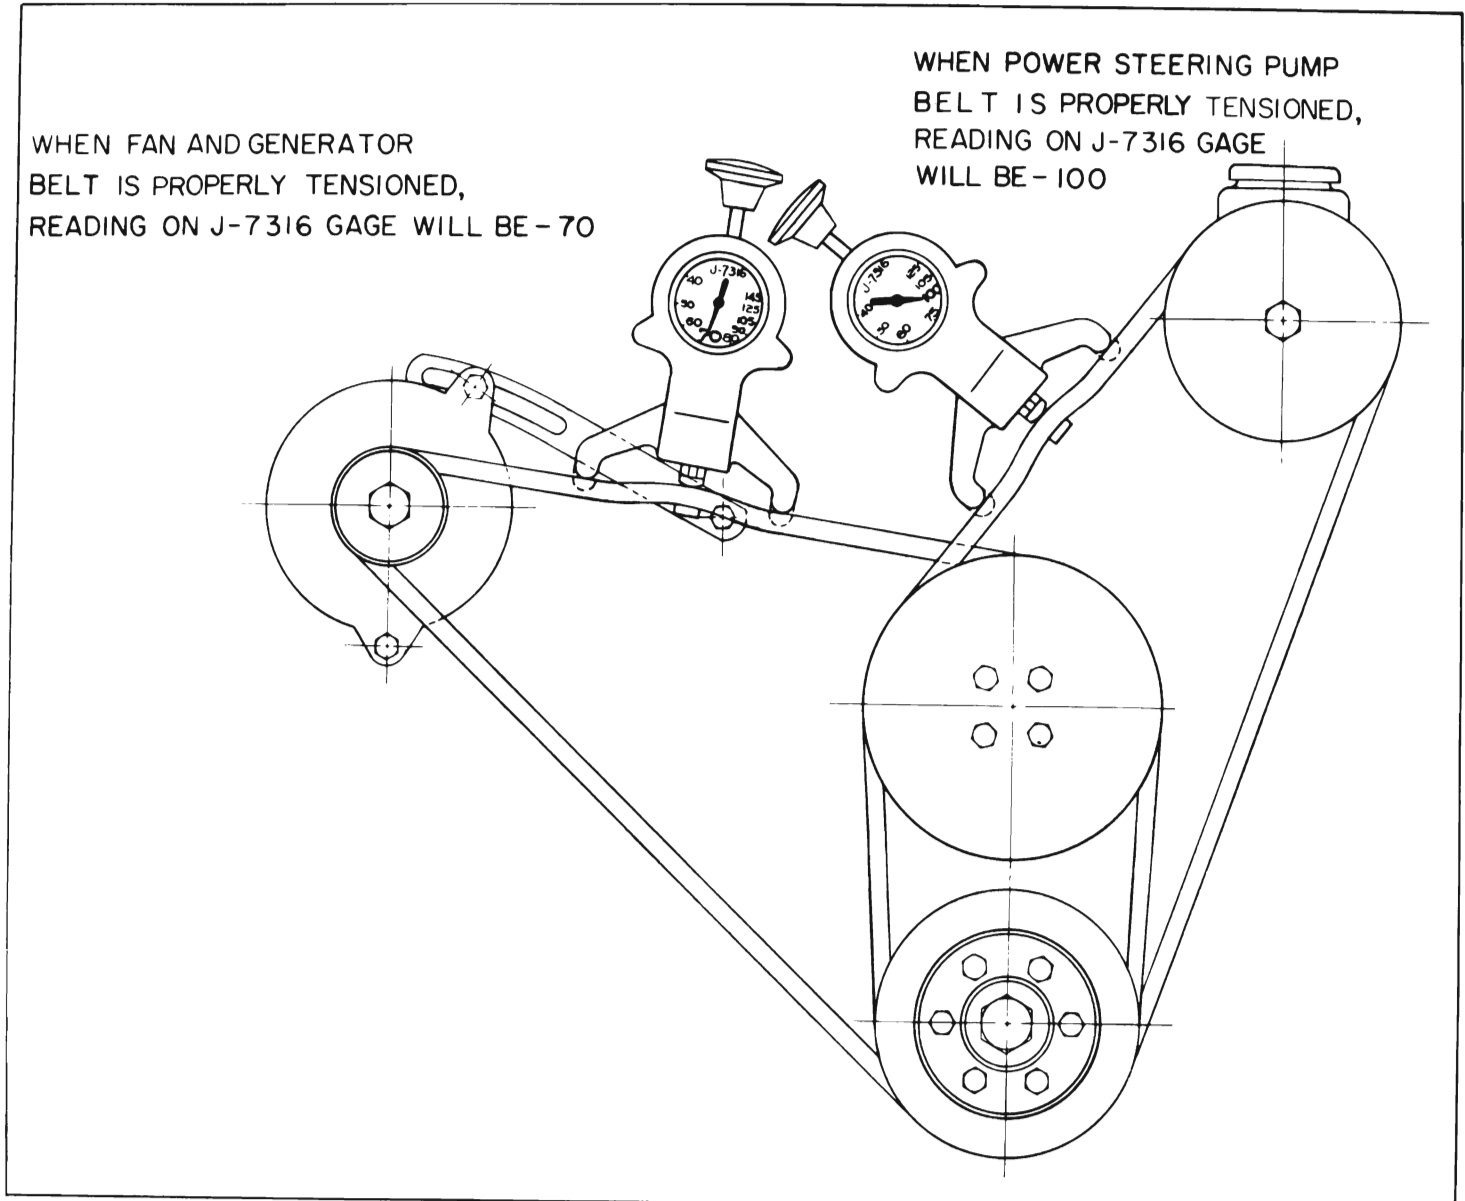

Figure 2-39—Belt Tension Chart - Non Air Conditioned Jobs
The generator must be moved sidewise to adjust the fan belt. After the generator brace and mounting bolts are securely tightened, the fan belt tension should be checked as shown in Figure 2-39.
If the power steering oil pump belt is removed it should be adjusted as shown in Figure 2-39.
3. Install fan pulley or pulleys, spacer and fan blade, tighten attaching bolts securely. Install belt or belts and adjust for proper tension. See Figures 2-39 and 2-40.